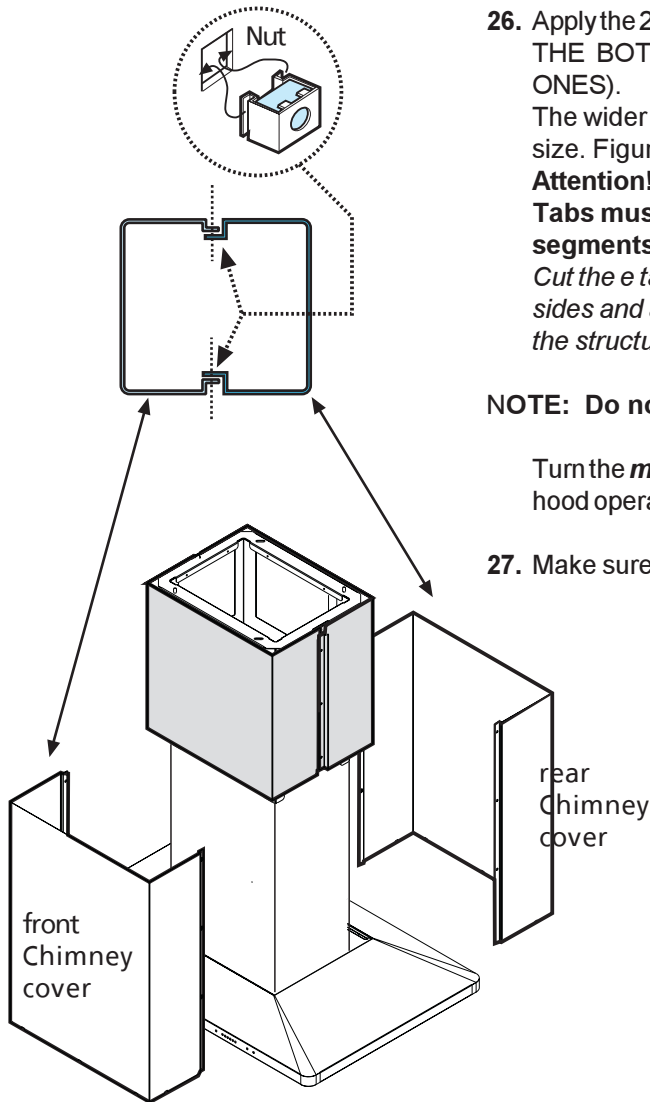

Figure 12
24. Join the two bottom sections of the chimney covers to cover the chimney structure using 6 screws (3 each side, see the plan diagram for joining the two sections). Figure 12.
25. Slide down the bottom section of the covers in its seat so that it completely covers the motor compartment and electrical connection box. Figure 12.
The **Suction power 2 LED** in Figure 12 is marked with an F. This LED will flash to remind you when the grease filter needs to be cleaned after 40 hours use. Follow the instructions for cleaning filters in this booklet. Once the grease filters have been cleaned, reset the reminder by pressing **Motor OFF button** for about 3 seconds until you hear the signal (beep).